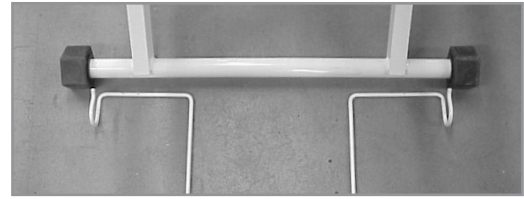

Figure 7
1. Place the baseboard bumper as shown (Figure 7).